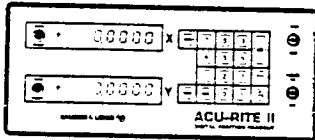

Figure 3
3. Push the ZERO RESET key for each axis to now properly zero the absolute mode. Plus zeros will be displayed (Figure 3).
5. Push the ZERO RESET key for each axis again to zero the incremental mode, and plus zeros will be displayed (Figure 3).